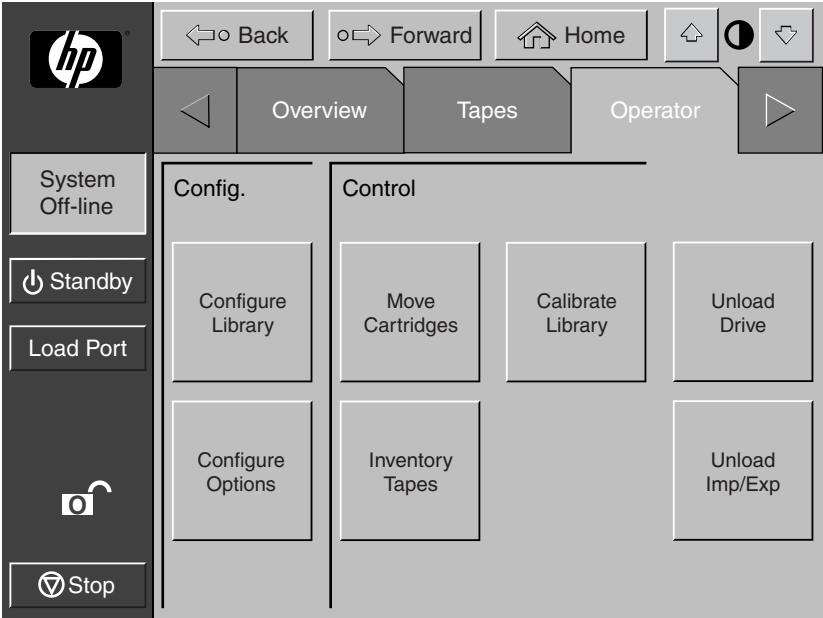

Figure 4-2: Operator screen
2. Enter the correct operator or service password to gain access to the Operator screen (see Figure 4-2). The default operator password is 1234.